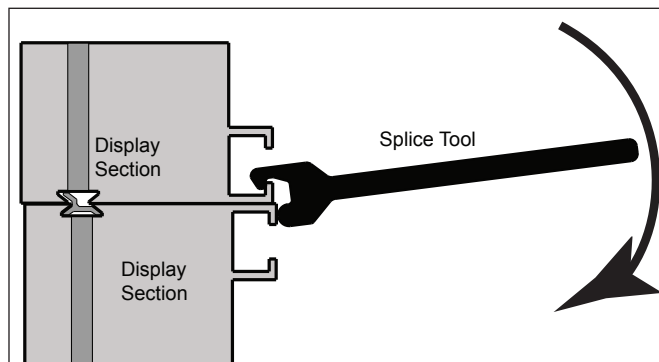

Figure 10: Aligning Display Sections with Splice Tool
12. Use the splice wrench to pull the display sections flush. Refer to **Figure 10**.
18. Starting at one end of the display, insert the top lip of the splice wrench into the top section mounting channel. Refer to **Figure 10**.